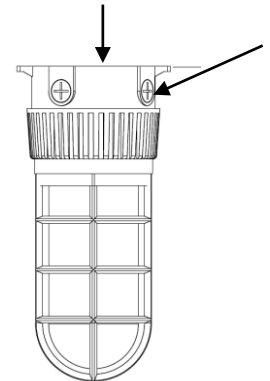

Figure 1
2. Use appropriate connectors into the fixture junction box back or sides. (See figure 1 for mounting points)